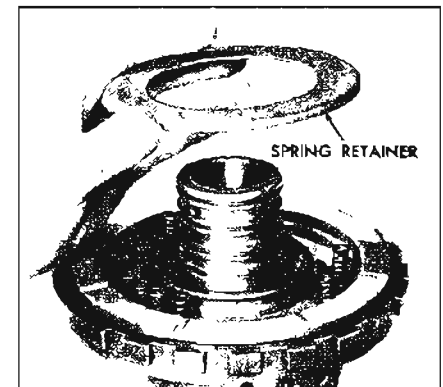

Figure 5-648
3. Remove the spring retainer and twelve (12) clutch release springs. See Figure 5-648.